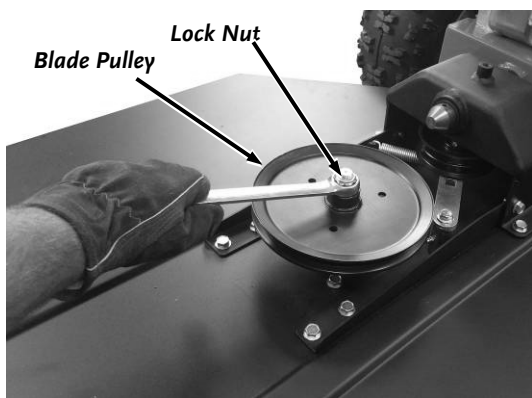

Figure 33
3. Block the blade with a piece of wood (**Figure 31**) as you remove the Locknut using a 15/16" Wrench (**Figure 33**).